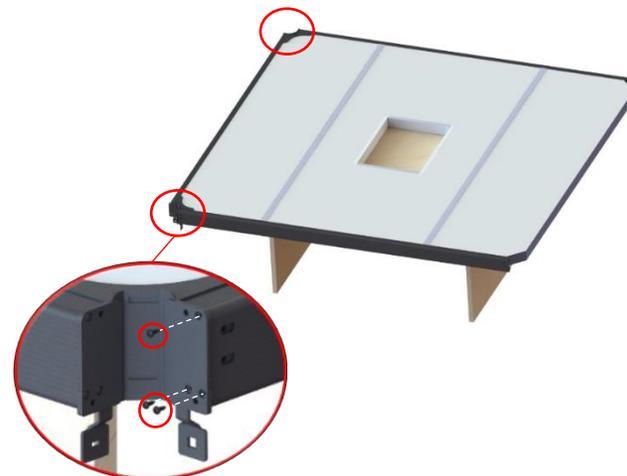

Figure 55
- 11) On both corner of the assembly, use the provided Robertson sheet metal #8 x 3/4 in. screws on the inside holes of the side C-channels already installed. (Figure 55)